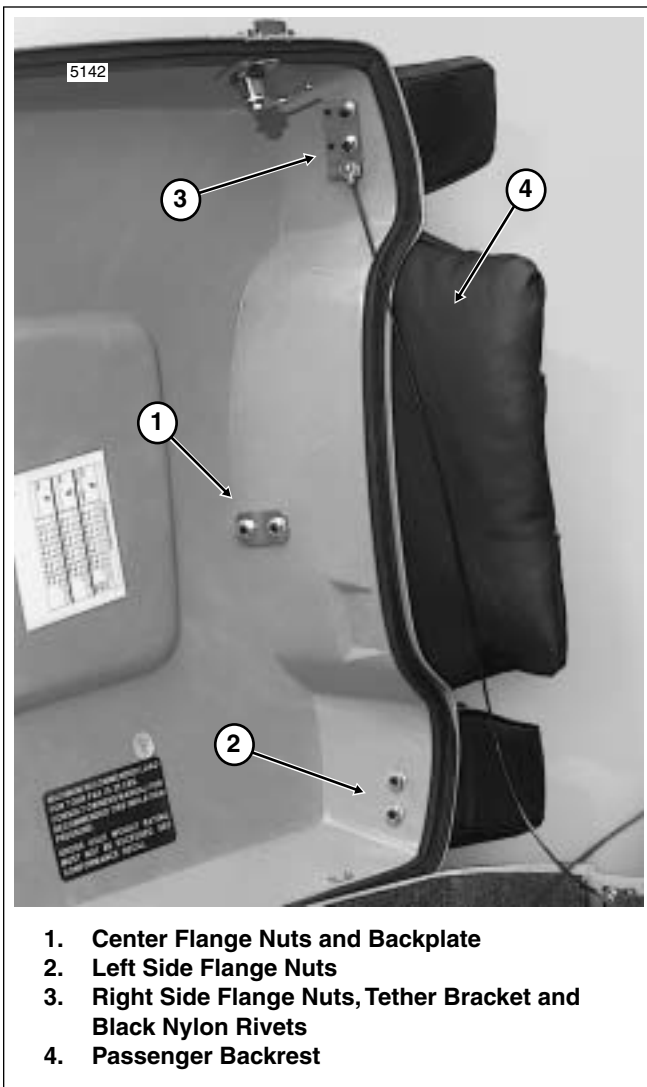

Figure 2-158. Tour-Pak Lid (Underside)
2. Remove two flange nuts and backplate to release center backrest from Tour-Pak lid. See Figure 2-158.